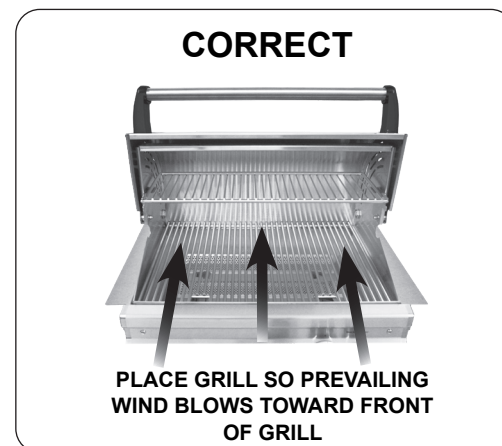

Fig. 19-3 Airflow direction - CORRECT
**CAUTION:** Wind blowing into or across the rear oven lid vent (Fig. 19-4) can cause poor performance and/or dangerous overheating. Install the grill so that the prevailing wind blows toward the front of the grill (Fig. 19-3).